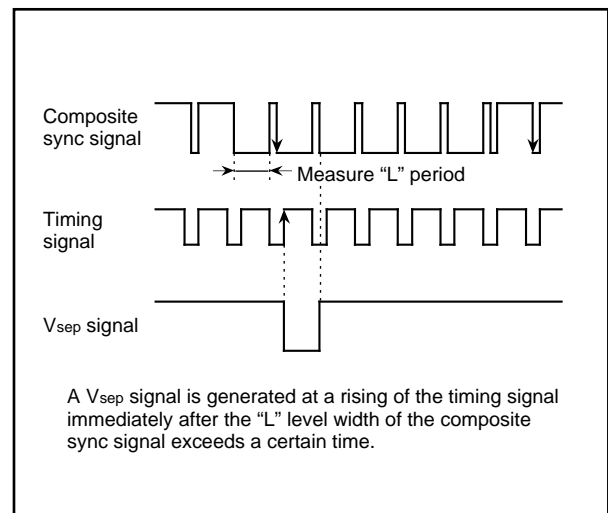

Fig. 28. Vsep Generating Timing (method 2)
- Method 2 The "L" level width of the composite sync signal is measured. If this width exceeds a certain time, it is detected whether a falling of the composite sync signal exits or not in the "L" level period of the timing signal immediately after this "L" level. If a falling exists, a V_{sep} signal is generated in synchronization with the rising of the timing signal (refer to Figure 28).
Figure 28 shows a V_{sep} generating timing. The timing signal shown in the figure is generated from the reference clock which the timing generating circuit outputs.